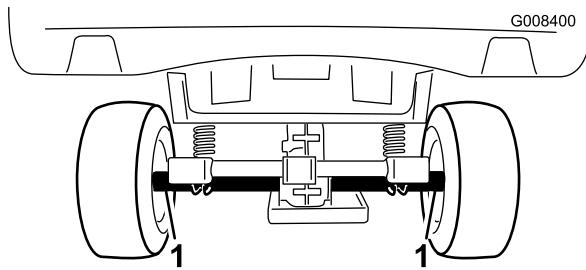
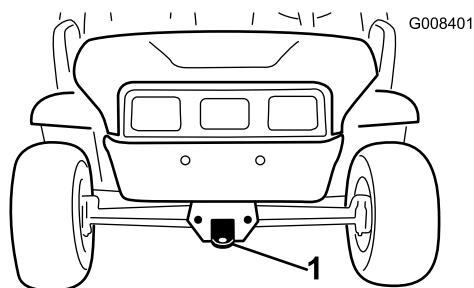

Figure 21
Figure 22
Use a trailer to move the machine a long distance. Make sure that the machine is securely bound to the trailer. Refer to Figure 21 and Figure 22 for the location of the tie-down points on the machine.
2. Affix a tow line to the tongue at the front of the machine's frame (Figure 22).